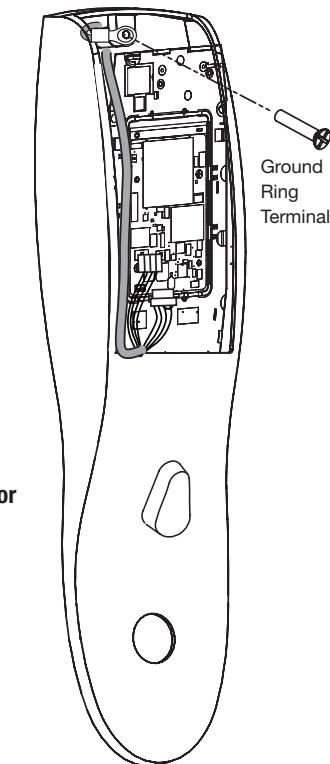

Fig. 9A
1. Route the raceway connectors over the top of the controller assembly and plug into the front of the circuit board (side that faces out when mounted (J7, J4; Fig. 9A).